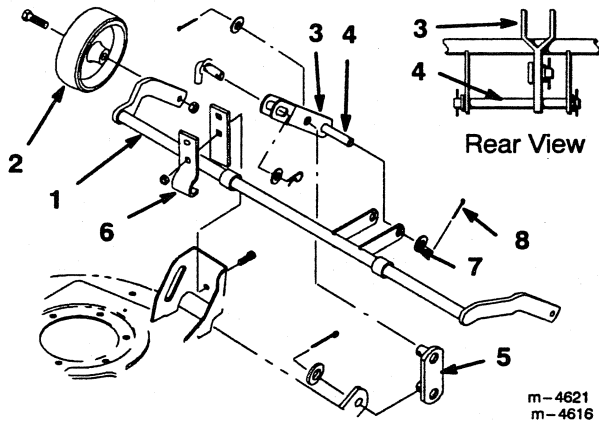

Figure 3
2. Install new lift arm to wheel carrier with washer and cotter pin (Fig. 3). Make sure the long side of pin is on the left side.
Note: Ensure that the longer side of lift arm pin is on the left side (Fig. 3).
3. Install new wheel carrier to deck (Fig. 3). Make sure the long side of pin is on the left side.